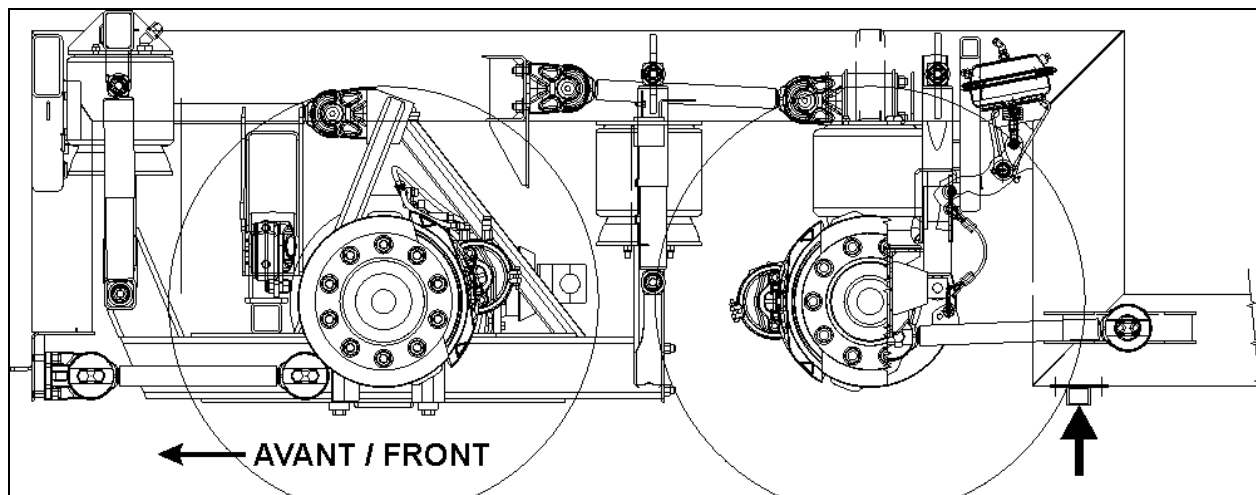

FIGURE 2
4. Place a jack on each side of vehicle to support the rear end. Refer to figure 2 for correct location of jacks.